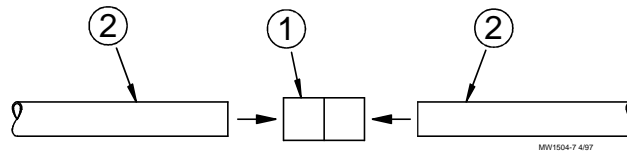

Figure 5
2. Install a coupling, as shown in **Figure 5**, at the FIRST (5) PIPE JOINTS from the manifold end of the row.